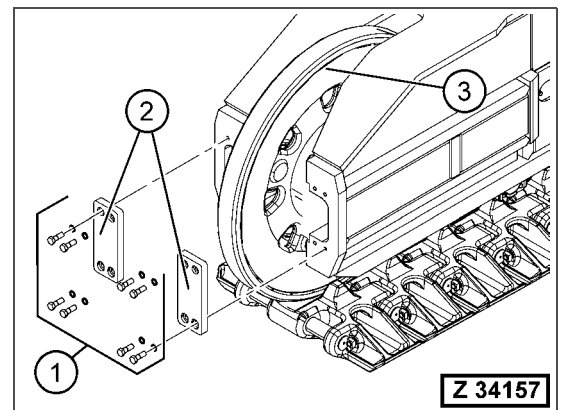

Fig. 4-36
4. Assemble the mounting bolts (Fig. 4-36, Pos. 1) to attach the stop plates at both sides of the guide wheel assembly.